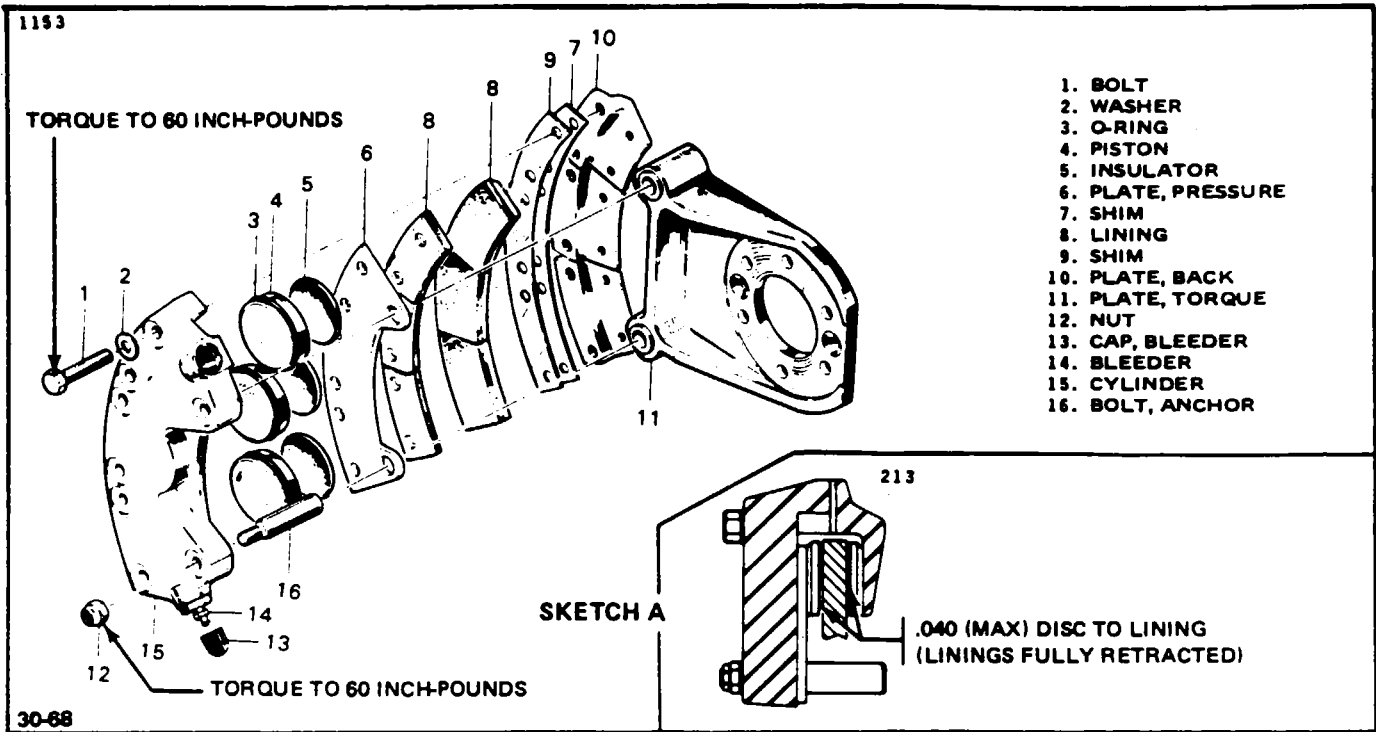
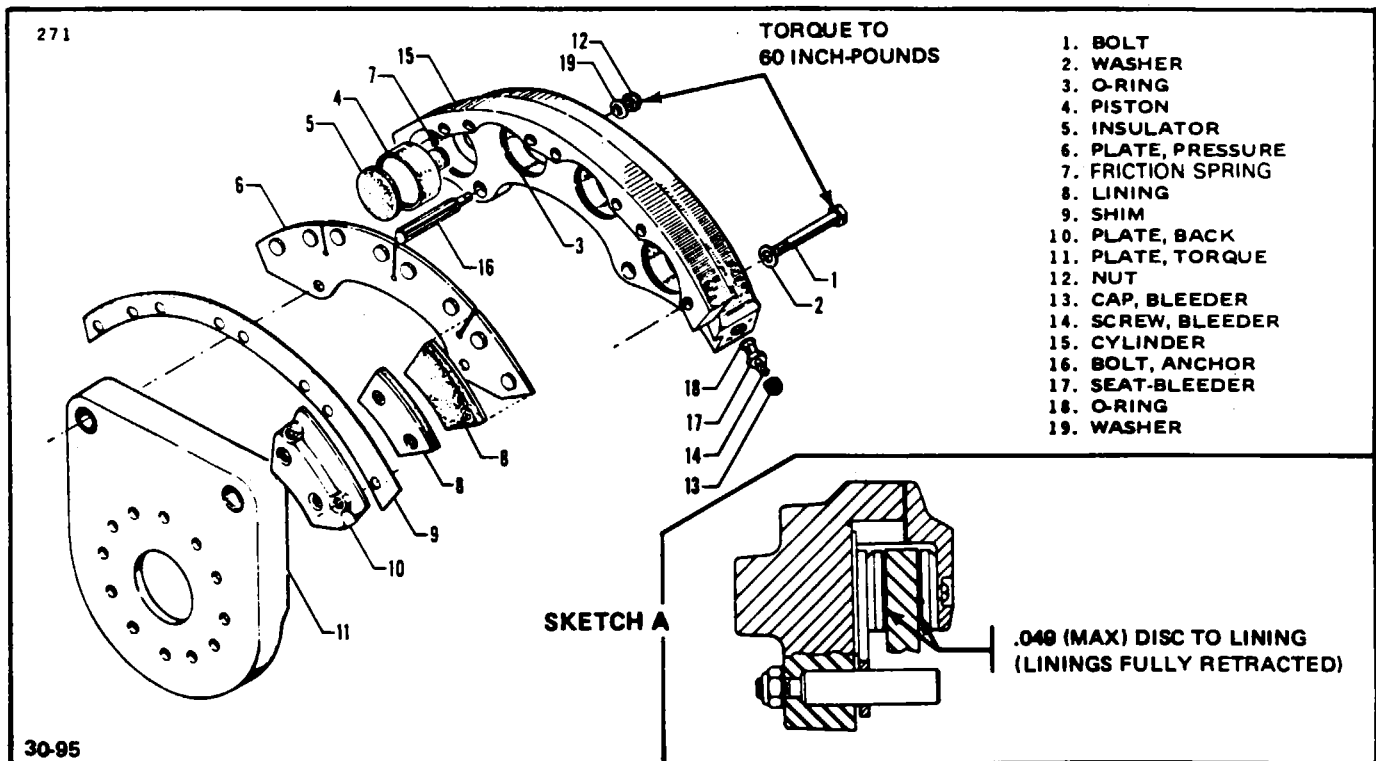

Figure 7-19. Wheel Brake Assembly (Cleveland 30-68A and B)
Figure 7-20. Wheel Brake Assembly (Cleveland 30-95 and 30-95a)
7-53. REMOVAL AND DISASSEMBLY OF WHEEL BRAKE ASSEMBLY. (Refer to Figure 7-19, 7-20 or 7-21.)
7-55. ASSEMBLY AND INSTALLATION OF WHEEL BRAKE ASSEMBLY. (Refer to Figure 7-19 or 7-20.)
- b. Lubricate O-rings with fluid MIL-H-5606 and install. Slide the pistons in cylinder housing until flush with surface of the housing. For pistons with friction rings (see Figure 7-20) check pilot bores and chamfers for burrs and nicks, remove before installing piston. Place piston in bore, rotate to seat friction ring and lightly tap into place. If piston does not seat, alternately tap and rotate: If considerable effort is required, remove piston and inspect pilot bore and piston tail for damage. Rework, if necessary and repeat above procedure.
- d. Slide the pressure lining plate (6) onto the anchor bolts (16) of the housing.
- e. Slide the housing assembly on the torque plate (11) of the gear.
- f. Install the backing plates (10) and secure with self-locking cap bolts (1); torque to 60 inch-pounds.
- g. With brake line disconnected push the linings as far apart as possible. In this position there should not be excessive drag or the tolerance between the disc and lining should not be greater than noted on Sketch A of Figure 7-19 or Figure 7-20. Assemblies falling outside the limits noted should be removed and rechecked for lining and brake disc minimum thickness. The wheel should rotate freely, if binding occurs, check axle nut to insure proper seating. If rubbing occurs check back plate assembly and pressure plate assembly linings to be sure that linings are fully seated.